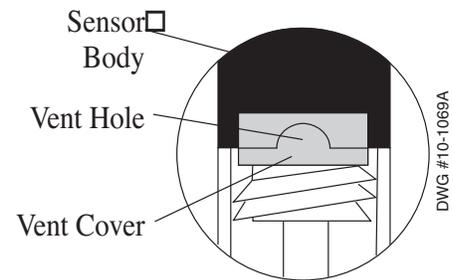

Figure 4.4 Vent Cover on Membrane Cap
9. Wipe the sensor body and cap dry. Remove a single blue vent cover from the backing and place over the vent hole (see Figure 4.4). Press firmly to ensure a good seal.